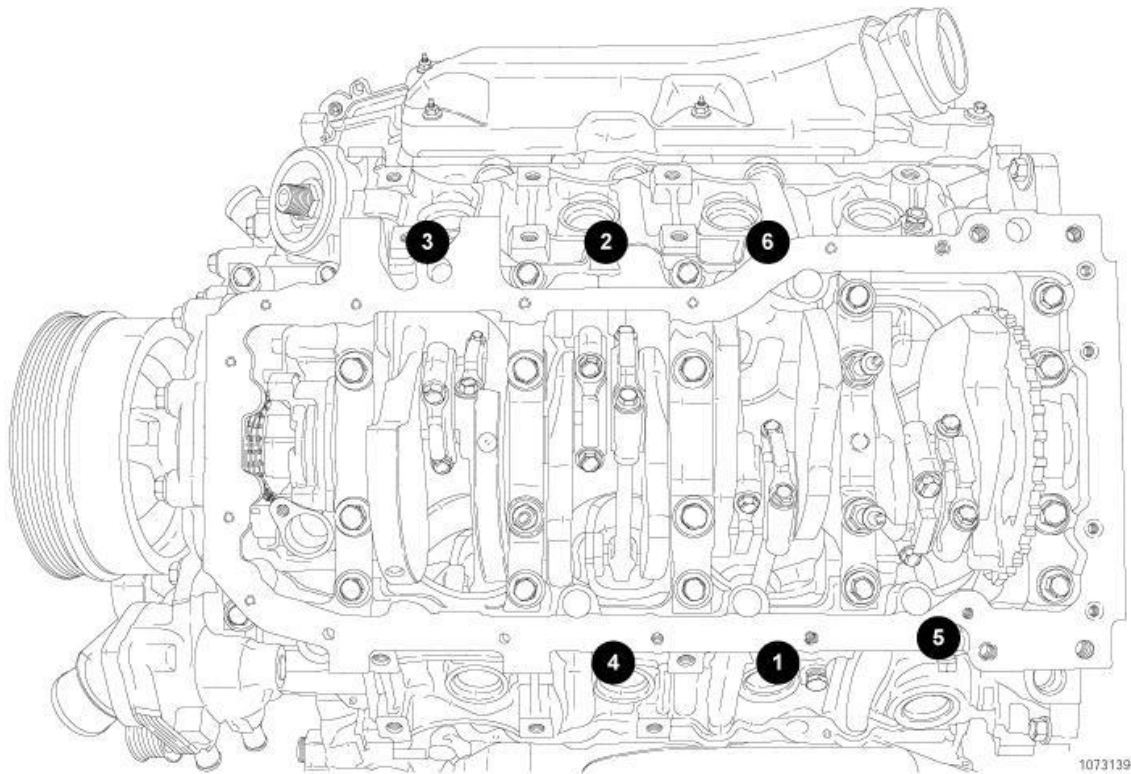

Fig. 184: Tightening Bedplate Bolts (4 Of 4)
10. Tighten bolts to 23 N.m (20 ft. lbs.) in the sequence shown in **Fig. 184**.